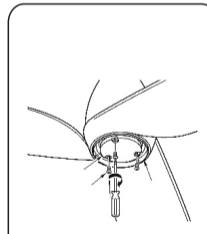

Fig.24
Step 5: Tighten the LED assembly to light kit plate with 3 screws. (Fig. 24)